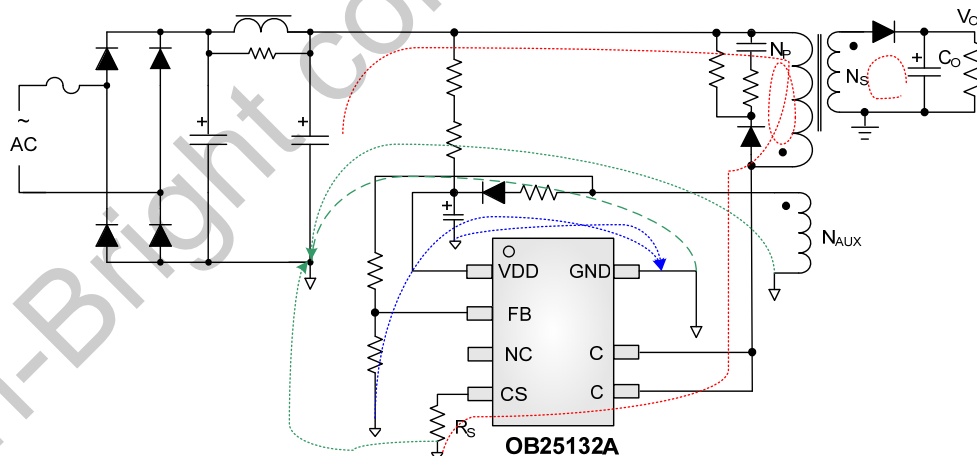

Fig.6 Flyback Schematic with OB25132A
**The Area of Power Loop:** The area of the main current loop should be as small as possible to reduce EMI radiation, such as the primary current loop, the snubber circuit and the secondary rectifying loop (Red wire as shows in Fig.6). Drain pin increases the copper area of the drain terminal for heat dissipation (Green region as shows in Fig.7). And the PCB trace must be wide and short for thermal consideration.
**Bypass Capacitor and FB divider resistor:** The bypass capacitor on VDD and the FB divider resistor should be placed as close as possible to pin out. And the negative node of VDD capacitor and the FB down resistor should be connected directly to the IC GND pin before single point connected to the negative node of the output capacitor. (Blue wire as shows in Fig.6)